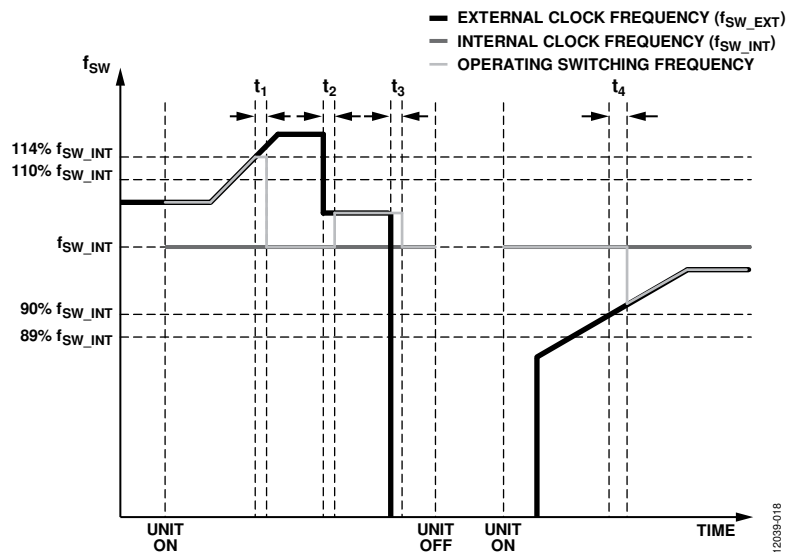

Figure 15. Synchronization Operation
2. If all periods of the most recent 64 consecutive cycles of the external clocks fall within 90% to 110% of the internal switching clock period, the ADP1050 uses the latest current cycle as the synchronization reference, and the period of the external clock is identified. This interval is  $t_2$  or  $t_4$ , as shown in Figure 15. Otherwise, the ADP1050 discards this cycle and looks for the next cycle (frequency capture mode).
returns to the internal clock set by the internal oscillator. This interval is  $t_1$  or  $t_3$ , as shown in Figure 15.
Figure 15 shows the synchronization operation diagram. The internal frequency,  $f_{SW\_INT}$ , is the internal free-running frequency of the ADP1050. Before the synchronization is locked, the ADP1050 runs at  $f_{SW\_INT}$ . The external frequency,  $f_{SW\_EXT}$ , is the frequency of the external clock to which the ADP1050 must synchronize. After synchronization is locked, the ADP1050 runs at  $f_{SW\_EXT}$ .